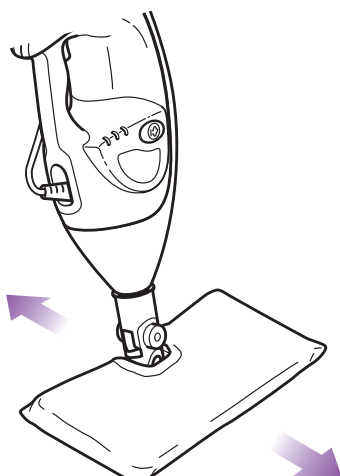

fig. 11
- 4** Clean your floors with a forward and backward motion. (**fig. 11**)